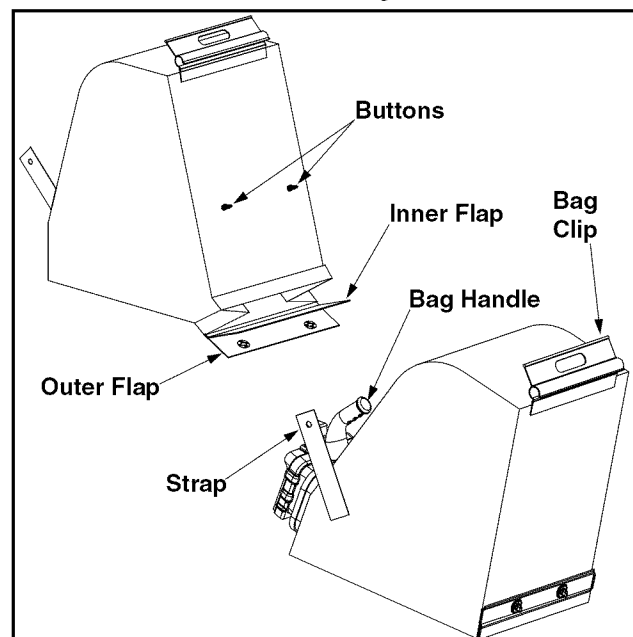

Figure 10
- Unhook bag straps from the lower handle and unsnap bag clip from top of the lower handle. See Figure 10.
- Twist the two buttons on the back of the bag to unlock and empty contents. See Figure 10.